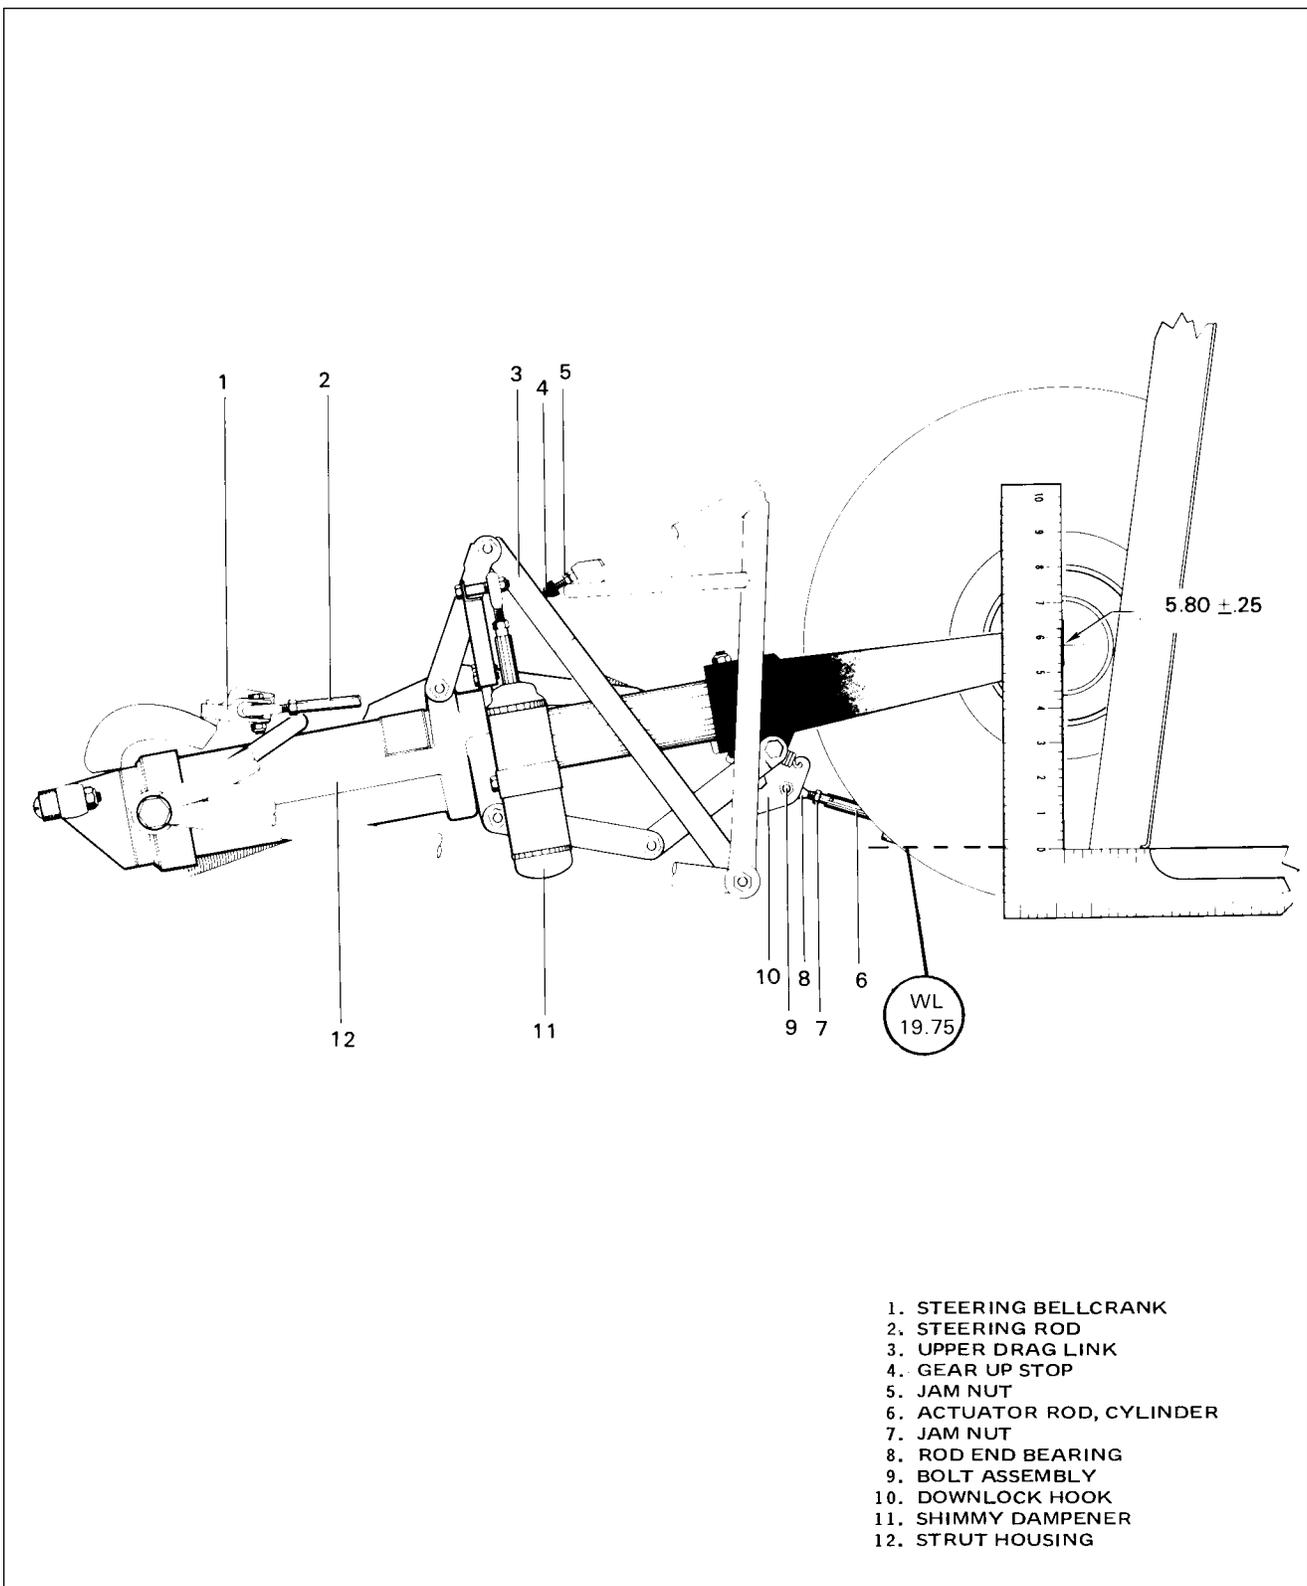

Figure 32-6. Nose Gear Adjustment (PA-28RT-201)
**ADJUSTMENT OF NOSE LANDING GEAR. (PA-28RT-201)** (Refer to Figure 32-6.)